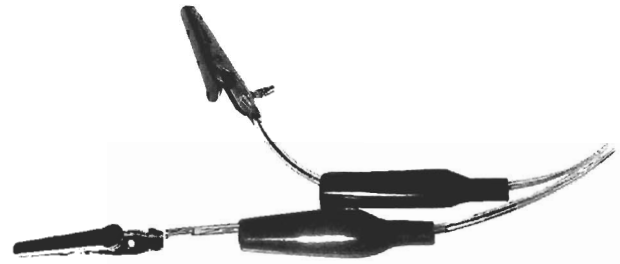

Figure L28-4
6. Now solder the wire strand at the bottom and clip the extra wire away. You should have something similar to Figure L28-4 now.